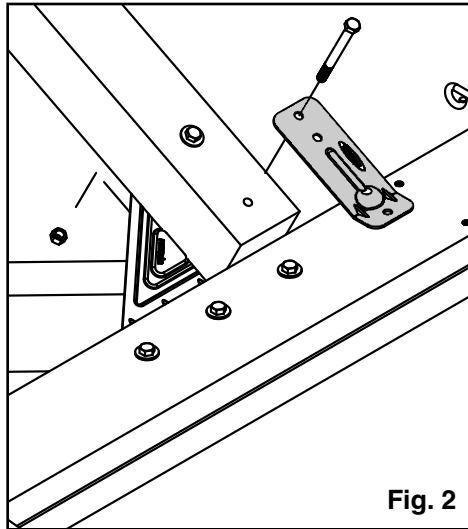

Fig. 2
Install the Sturdy-Frame Brace as shown and secure with 3/8" bolt and lock nut. (Fig. 2)
3. Insert the right (R) step side rail on top of the existing boards until the standard boards are flush with the outside of the side rail. **(Fig. 2)**